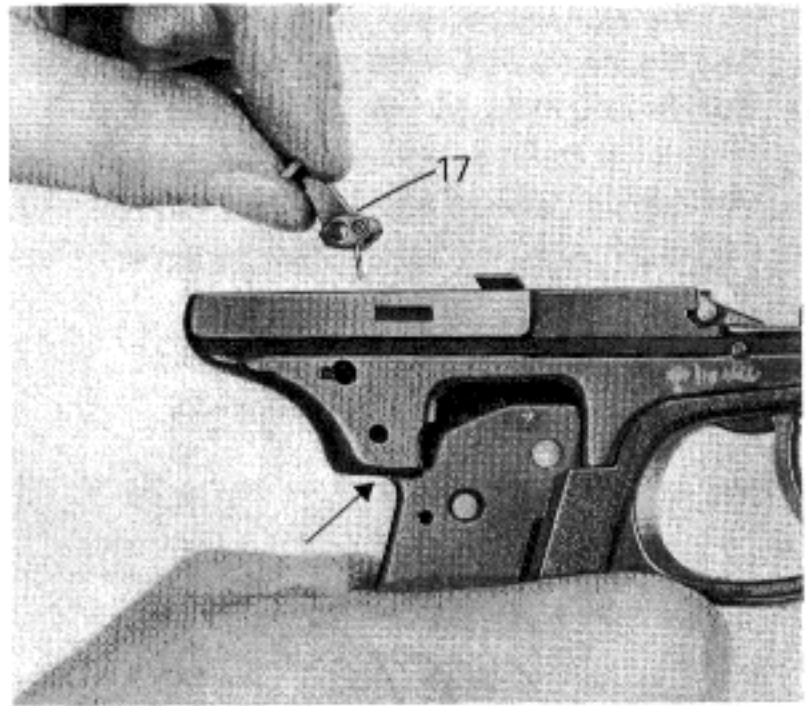

Fig. 37
- Fit the threaded insert (15) from below into the trigger guard and lens head countersunk screw (11) from above, at the same time pressing the buffer housing slightly back with the support. Screw the insert and the countersunk screw together (counter screw).
- Thread lens head countersunk screw (11) into the receiver and tighten firmly.
- Introduce the catch lever (17) into the receiver (Fig. 37) so that the end of the elbow spring projects through the small drill hole in the receiver (see arrow).